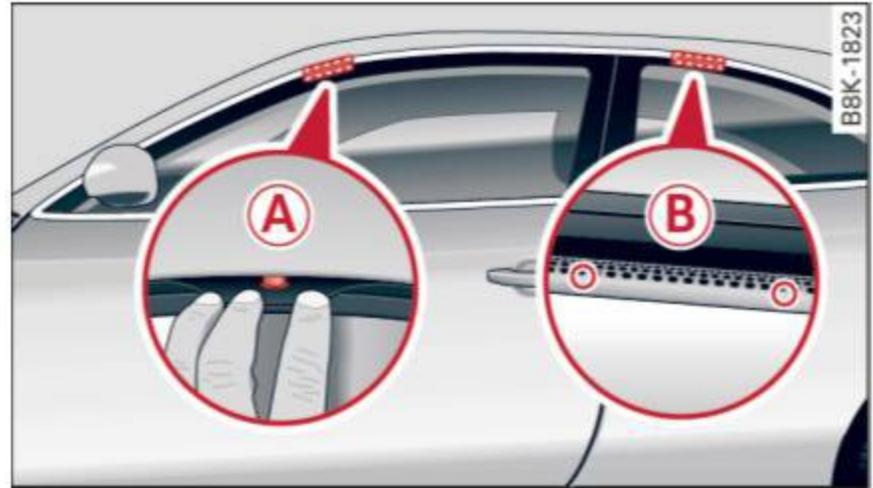

Fig. 66 Roof rack attachment points
- When installing the roof rack, make sure it is only mounted on the designated locations on the roof ⇒ fig. 66.
- Only mount the roof rack on the designated locations on the roof ⇒ *fig. 66*.